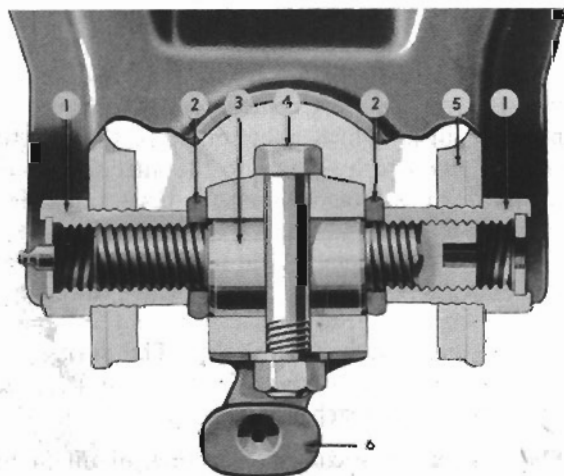

FIG. 38
The caster and camber adjustments are both made at the upper control arm outer pin (3, Fig. 38). The pin is threaded into the bushing (1) of the control arm (5) and is held in the king pin (6) by the pinch